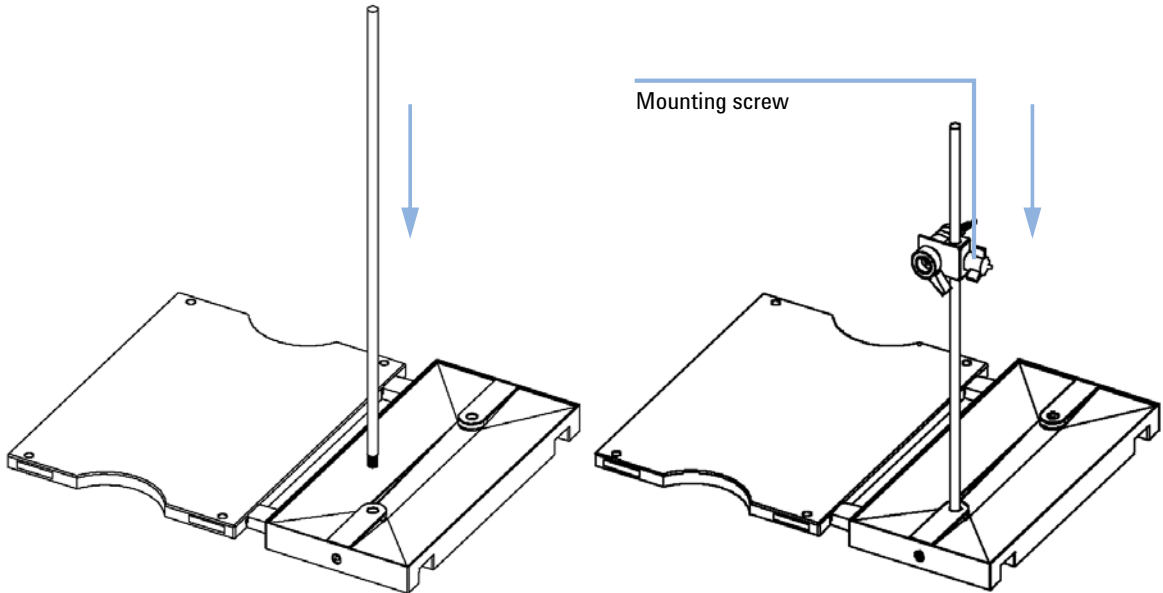

Figure 3 Installing the Mounting Pole and Manual Injector
- Slide the manual injector onto the mounting pole (see Figure 3 on page 11). Tighten the mounting screw.